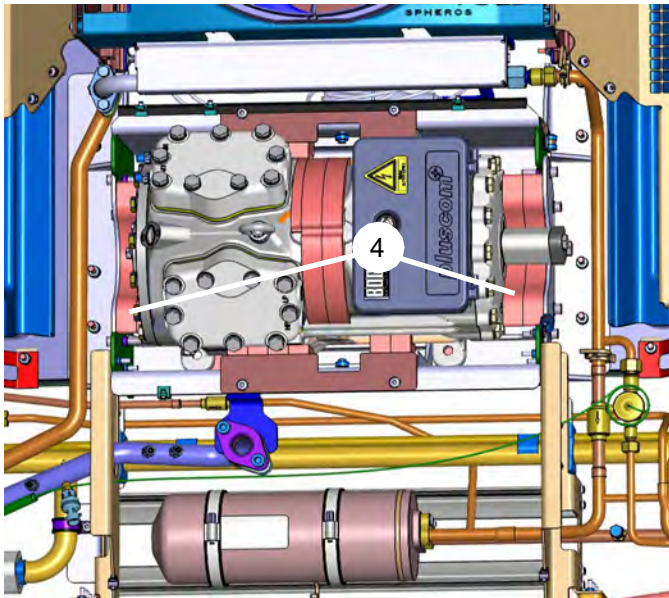

Fig. 811
- Insert foam (4, Fig. 811) on both long sides in the compressor pan and affix with compressor pressure plate.